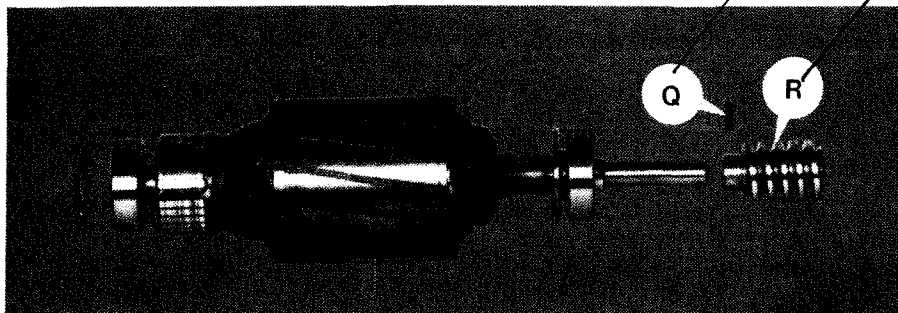

Figure 3.51 - Rotor Shaft and Components
17. Remove spring pin "Q" and worm "R", Figure 3.51, from the rotor shaft assembly.
6. Mount worm "R" and spring pin "Q", Figure 3.51, on the rotor shaft assembly.